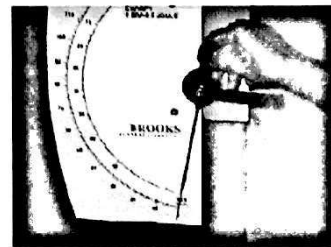

Fig.5.9: setting the indicator to zero.
3. Adjust the indicator with its carrier to the "zero" position (set to zero or 50 joules) as shown in Fig.5.9.